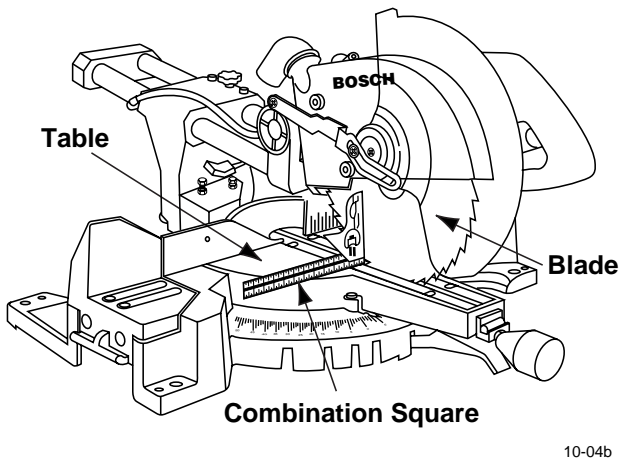

Figure 5. Blade Square to Table
3. Lower the blade and engage the lock pin. Use a combination square to check blade squareness to table. Place the square on the table and press it against the blade. If the blade does not contact the full length of the square, (Figure 5) follow the alignment procedure.